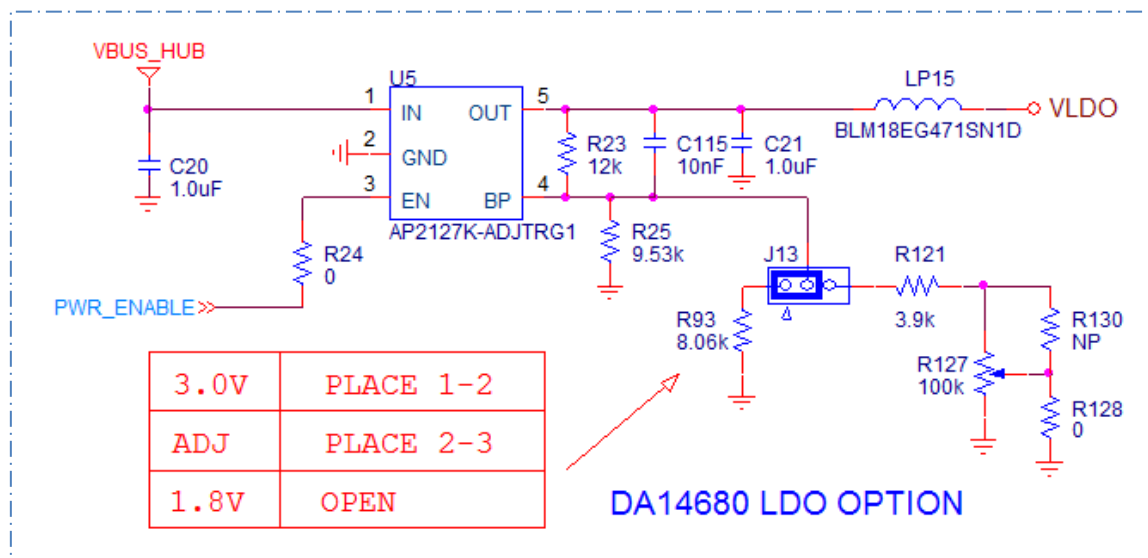

Figure 22: VLDO linear voltage regulator, supplied from USB2 (DBG)
**U5: 3.0V, 1.8V or adjustable / LDO.** It generates VLDO voltage rail that supplies the DA1468x/DA1510x daughterboard. It is enabled from USB Hub, through PWR\_ENABLE or by applying a jumper on J17. If no USB cable is plugged in USB2 (DBG) port, then the LDO is not enabled. For generating 1.8V, remove jumper on header J13. Finally, VLDO is adjusted from 1.9V to 4.3V through variable resistor R127 (shown in Figure 22).